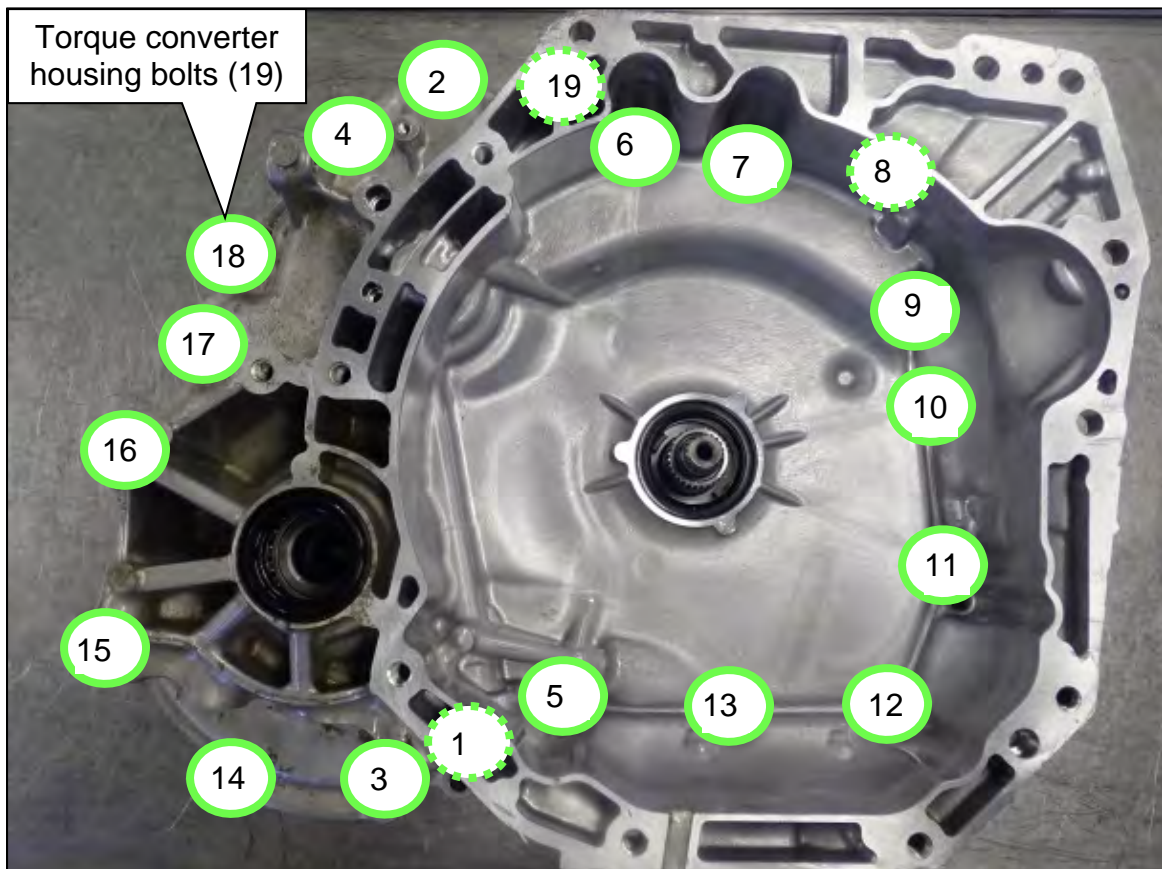

Figure 197
161. Install the torque converter housing onto the CVT case with nineteen (19) new bolts and torque to the pattern shown in Figure 197.
- The bolts not visible in Figure 197 are indicated with a dotted green circle.